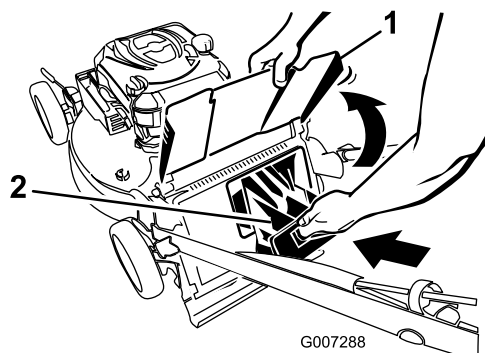

Figure 26
4. Install the rear discharge plug (Figure 26).